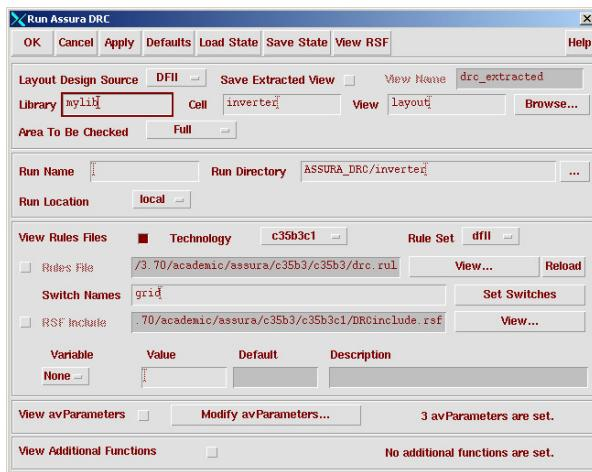

Figure 29. Run Assura DRC Window
2. Verify you get a window like that in Figure 29. A **Save Cellviews** window may pop up, click **OK** if it does.
1. Click **Assura**, then **Run LVS**. You should get a window like that in Figure 29. If you are asked to save the design first, choose Yes.